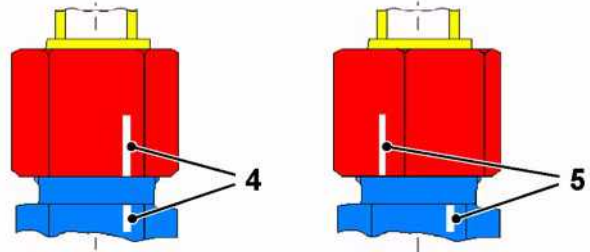

Fig 5.
Swivel-nut line marking, the broken-line method. ⇒ Fig 5. (□ 1-33).
- Before the hose is disconnected to examine the O-ring, examine the hose swivel-nut for the broken-line white marker. If there is no visible white marker, photograph the hose and adaptor. → Fig 5. (□ 1-33).